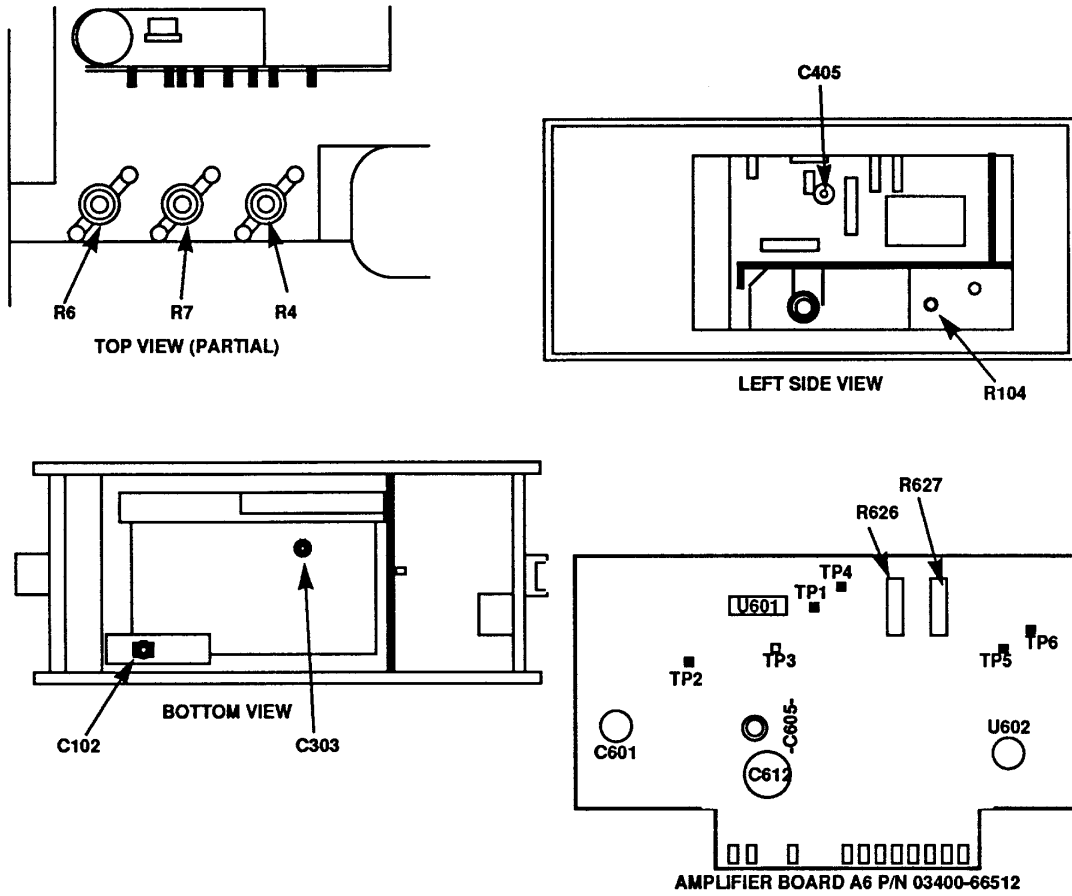

Figure 1. Test instrument - top, left side, bottom view, and A6 board, P/N 03400-66512.
- (1) Adjust R4 (R627 for TIs with amplifier board A6, P/N 03400-66512) (fig.1) until digital multimeter indicates -1.00 V.
- (2) If necessary, adjust R6 (fig. 1) for full scale indication on TI.
- (3) Set calibrator for a 10 mV, 400 Hz output. Adjust R6 (fig.1) until TI indicates full scale (R).
- (4) Set **RANGE** switch to **.1 VOLTS**.
(5) Adjust R7 (R626 for TIs with amplifier board A6, P/N 03400-66512) (fig. 1) until TI indicates 0.01 V (1 /10 scale) (R).
(6) Set **RANGE** switch to **.01 VOLTS**.
(7) Repeat (3) through (6) above until no further adjustment is necessary.
(8) Set calibrator for a 1.0 V, 400 Hz output. Adjust R104 (fig. 1) until TI indicates 1 (R).
(9) Set calibrator for an initial 900  $\mu$ V 1 kHz wideband output, then adjust for the TI indication record for table 3 (.0009 V).
(10) Press calibrator **NEW REF** pushbutton, then set frequency to 10 MHz. Adjust C405 (fig. 1) for the 1 kHz reference established **b(9)** above (R).
(11) Vary calibrator frequency between 3 and 10 MHz and if required, readjust C405 (fig. 1) for best in-tolerance condition.
(12) Set calibrator for an initial 0.9 V, 1 kHz wideband output, then adjust for the TI indication recorded for table 3 (0.9 V).
(13) Press calibrator **NEW REF** pushbutton, then set frequency to 100 kHz. Adjust C102 (fig. 1) for the 1 kHz reference established in **b(12)** above (R).
(14) Vary calibrator frequency between 100 kHz and 10 MHz and, if required, readjust C102 (fig. 1) for best intolerance condition.
(15) Set calibrator for an initial 0.3 V, 1 kHz wideband output, then adjust for the TI indication recorded for table 3 (0.3 V).
(16) Press calibrator **NEW REF** pushbutton, then set frequency to 3.0 MHz.). Adjust C303 (fig. 1) for the 1 kHz reference established in **b(15)** above (R).
(17) Vary calibrator frequency between 3 and 10 MHz and, if required, readjust C303 (fig. 1) for best in-tolerance condition.